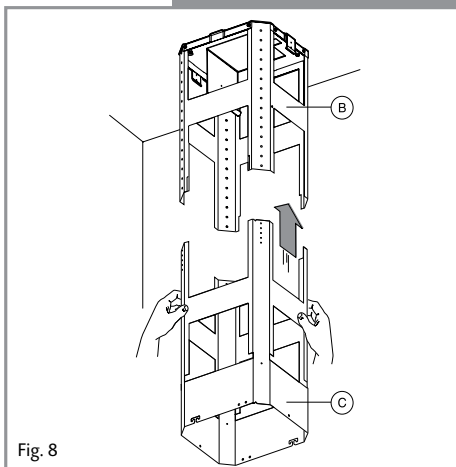

Fig. 8
8. Fit the lower section (B) to the upper section (C) at the correct height and secure in position using the supplied screws (G), as shown in Figs 8 and 9